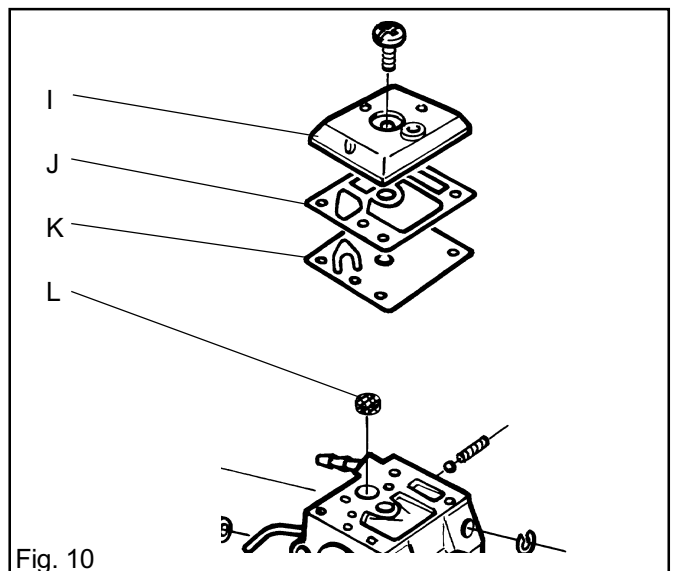

Fig. 10
9. Remove the cover (I) of the pump unit and carefully remove the gasket (J) and pump diaphragm (K). See fig. 10.
10. Using a needle or similar carefully lift out the fuel filter (L). See fig. 10.
4. The fuel filter is undamaged. See L in fig. 10.